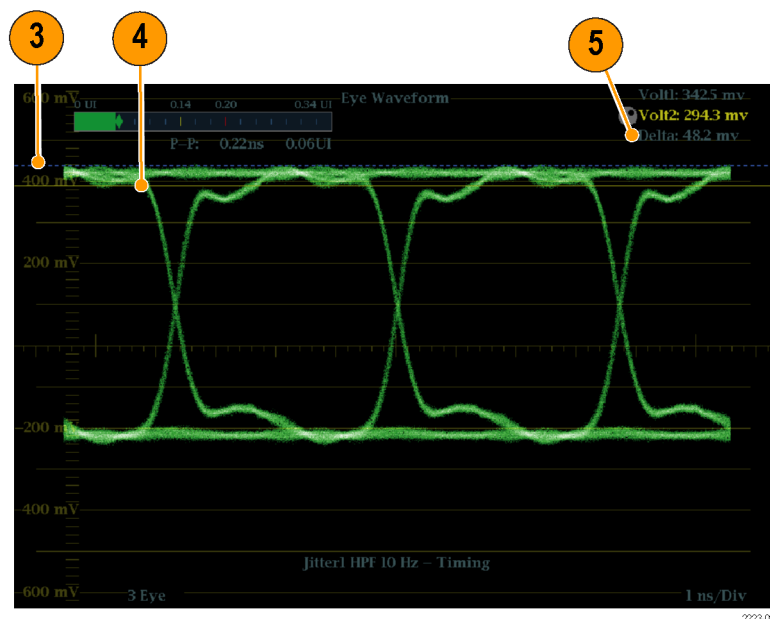

Figure 57: Using cursors to measure aberrations in the Eye pattern
3. Position one voltage cursor at the peak of the overshoot at the top horizontal part of the waveform. (See Figure 57.)
4. Position the second voltage cursor at the bottom of the top line of the waveform. Include any ringing (the oscillation following overshoot) in the measurement. Essentially, you are measuring the thickness of the top line of the waveform. (See Figure 57.)
5. Note the amplitude of the aberration displayed in the Voltage Cursor readout. (See Figure 57.)